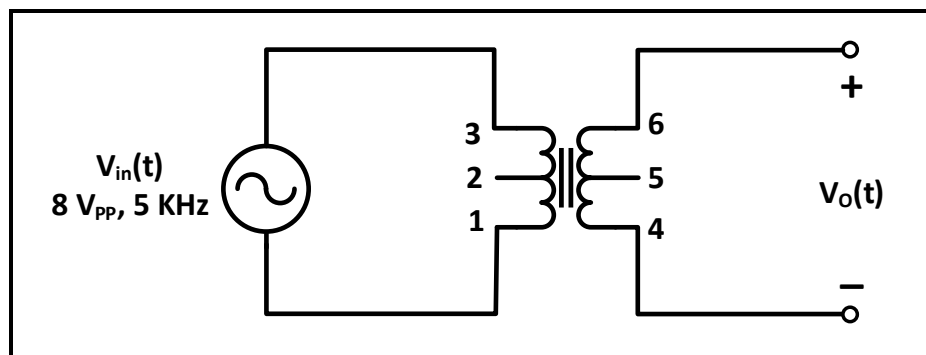

Figure 8.4
1. Connect the circuit of Figure 8.4, with $V_{in}(t)$ as a sinusoidal voltage $8 V_{PP}$ and $f = 5 \text{ kHz}$.